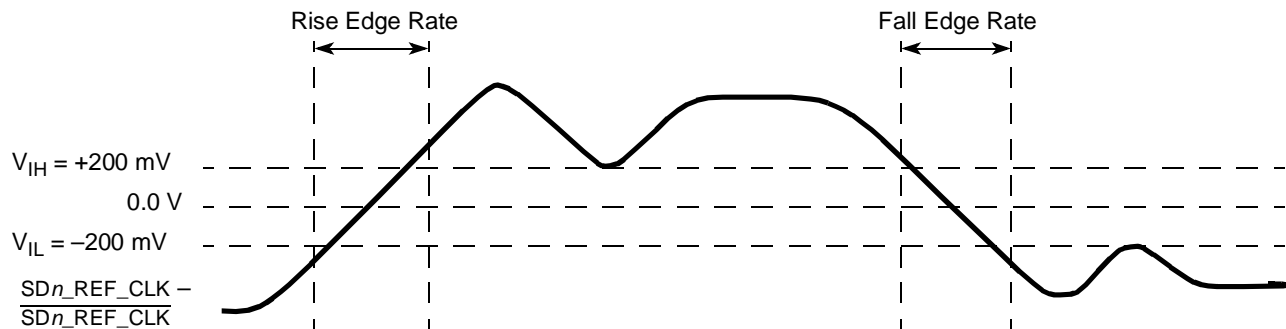

Figure 47. Differential Measurement Points for Rise and Fall Time
- Measured from -200 mV to +200 mV on the differential waveform (derived from $\text{SD}_n_{\text{REF_CLK}}$ minus $\overline{\text{SD}}_n_{\text{REF_CLK}}$). The signal must be monotonic through the measurement region for rise and fall time. The 400 mV measurement window is centered on the differential zero crossing. See Figure 47.